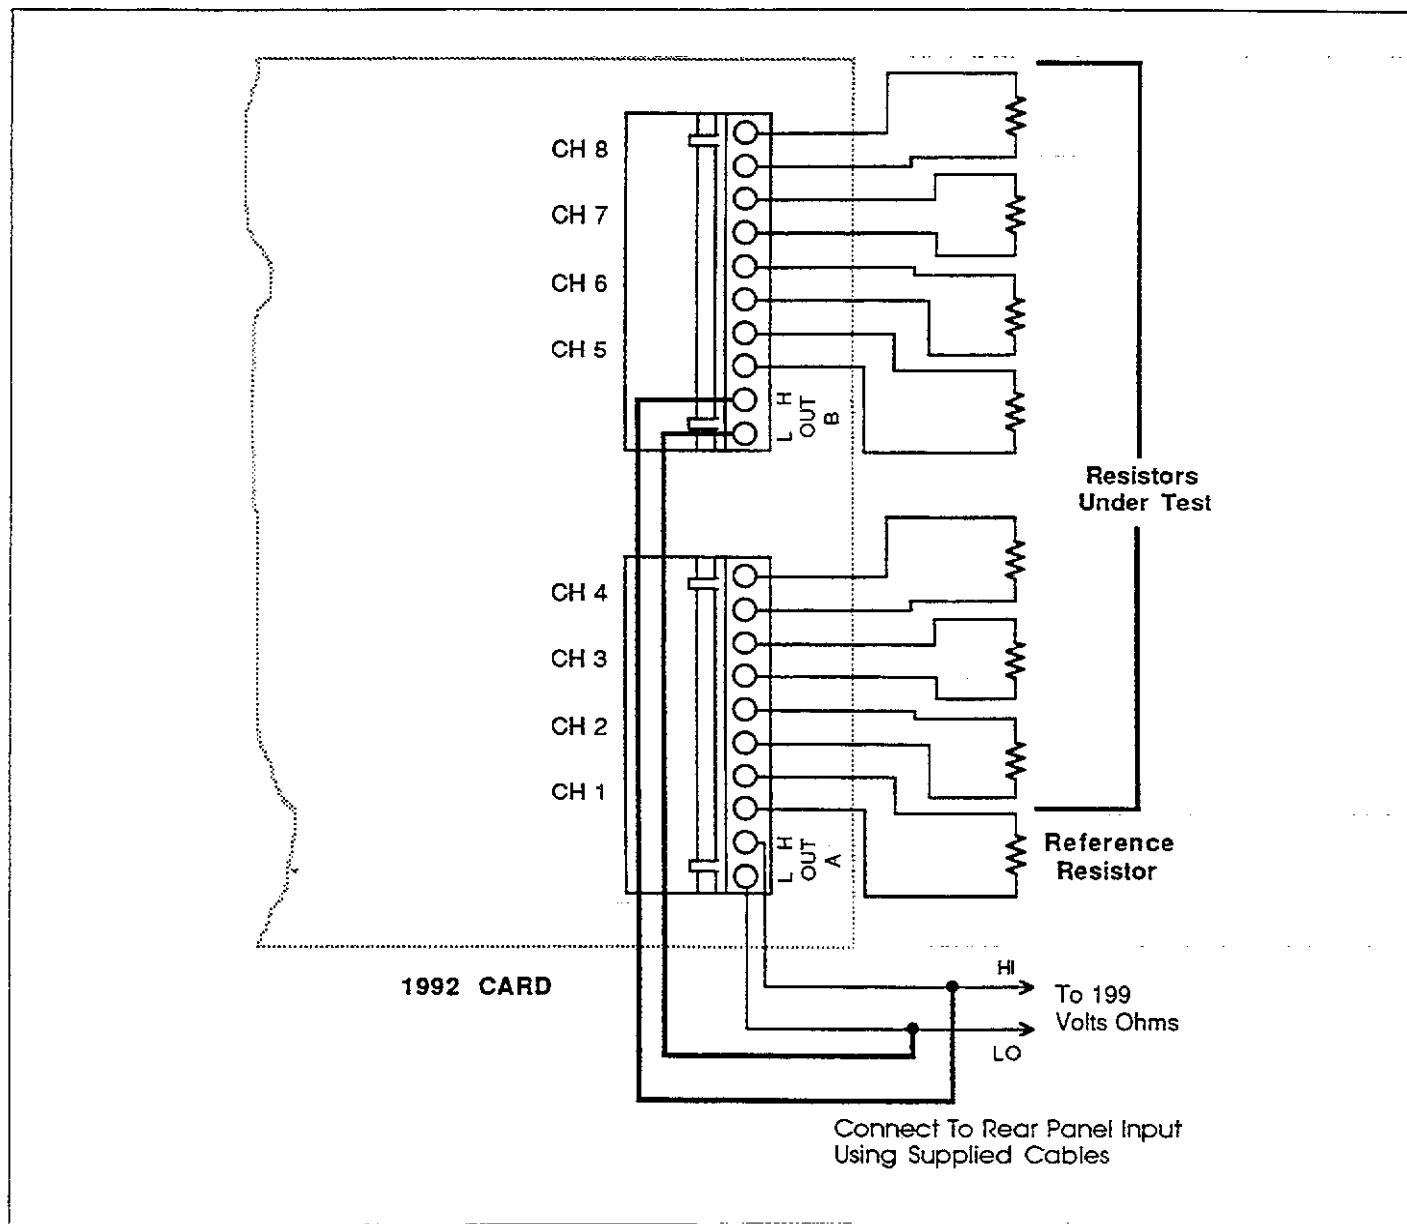

Figure 3-10. 2-Pole Resistor Test Connections
Typical connections for 2-pole and 4-pole modes are shown in Figures 3-10 and 3-11. The 4-pole mode is recommended for making measurements on the 300Ω, 3kΩ, and 30kΩ ranges in order to attain rated accuracy. For the 2-pole mode, the reference resistor should be connected to channel 1 only; in the case of the 4-pole mode, the reference resistor is connected to both channel 1 and 5. The resistors being compared are connected to the remaining channels as indicated.
The scanner output connections also differ. For the 2-pole mode (Figure 3-10), OUT A and OUT B are strapped together (H to H, L to L) and then connected to the VOLTS OHMS terminals of the Model 199 (the rear panel terminals are most convenient for scanner use; just be sure the rear panel terminals are selected with the front panel switch). In the case of the 4-pole connections, OUT A is connected to the VOLTS OHMS terminals, while OUT B is connected to the OHMS SENSE terminals.
1. Connect the resistors to the scanner, as shown in Figure 3-10 or 3-11. For resistances below 30kΩ, the 4-pole mode is recommended for rated accuracy.